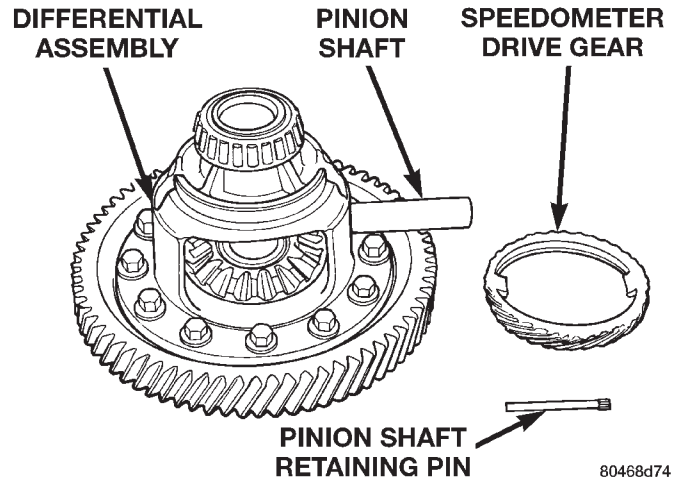

Fig. 119 Pinion Shaft Removal
- (2) Remove pinion shaft (Fig. 119).